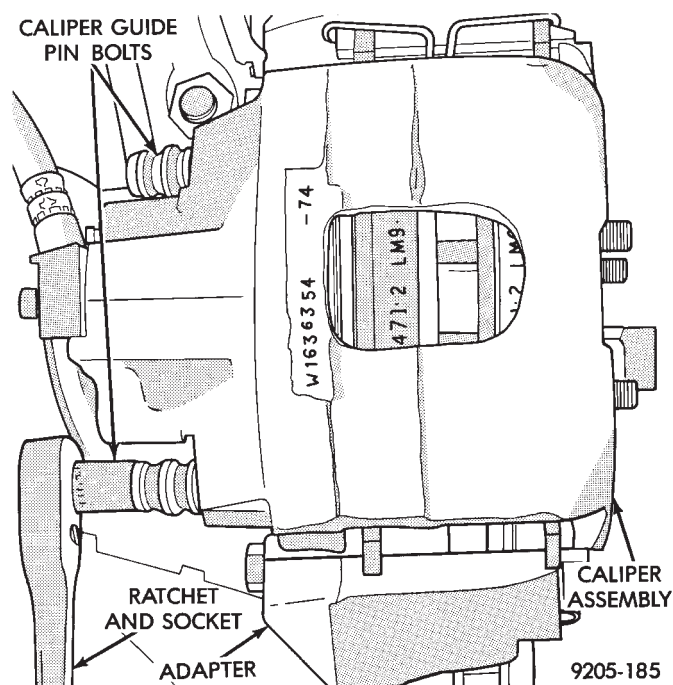

Fig. 1 Removing or Installing Caliper Guide Pin Bolts
- (1) Raise vehicle on jackstands or centered on a hoist. See Hoisting in the Lubrication and Maintenance section of this manual.
- (2) Remove front wheel and tire assemblies.
- (3) Remove caliper guide pin bolts (Fig. 1).